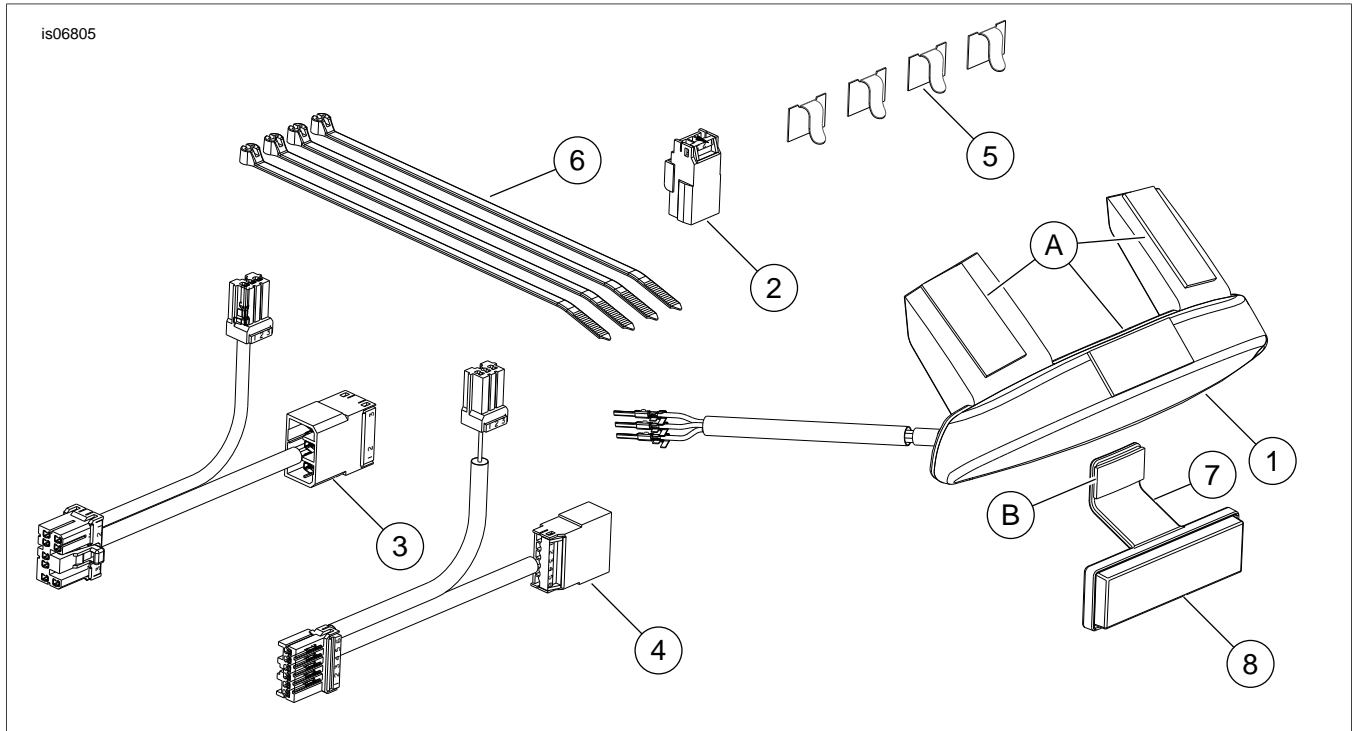

Figure 4. Service Parts: Fender Edge Light Kit
See Figure 4 and Table 1.
- See Figure 4. Remove the protective tape (A) from the three adhesive pads on the fender edge light (1).
- For Dyna models:** See Figure 4. Connect interconnect harness (3) to rear lighting harness connector [7B] and main wiring harness [7A].
**For Sportster models:** See Figure 4. Connect interconnect harness (4) to rear lighting harness connector [7B] and main wiring harness [7A].
- See Figure 4. Insert the wires and terminals from the light assembly harness into the pin housing (2) from the kit:
- Secure the interconnect harness in the seat pan area as necessary with cable straps (6).